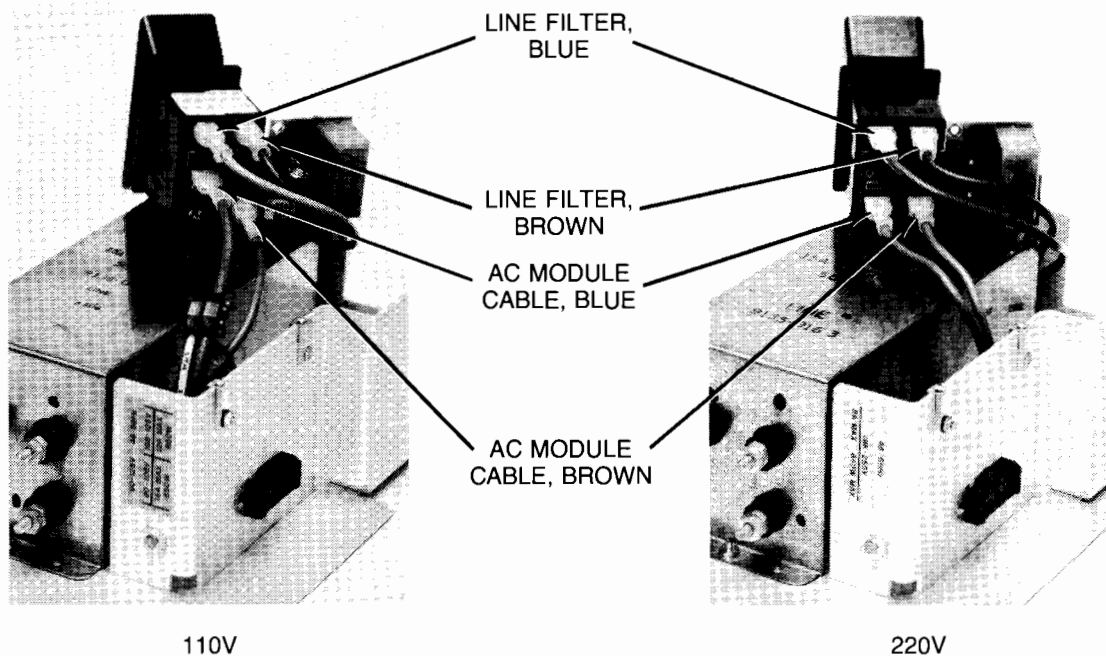

Figure 4-67. Removing Power Switch Assembly
6. If removing power switch assembly, slide assembly up and onto top of ac module (Figure 4-67) and disconnect all wires from the back of power switch assembly.
7. If removing ac module cable, disconnect cable connectors from power switch assembly lugs (Figure 4-67) and remove cable.
Ensure wires are attached to the replacement power switch assembly as shown in Figure 4-67.